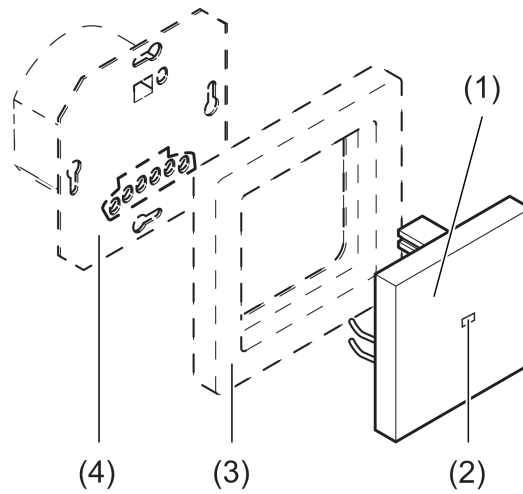
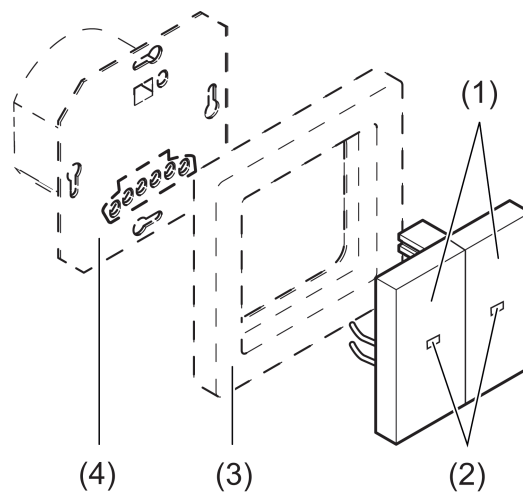

Figure 1: Device components 1-gang
Figure 2: Device components 2-gang
Front view 1-gang (see figure 1) and 2-gang (see figure 2)
- Fit the cover with frame on the insert (see figure 1).